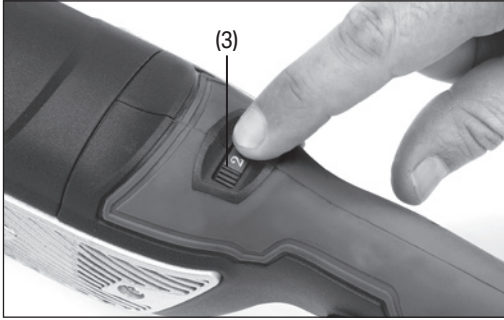

Fig.9
7.1 Variable Speed Control (Fig.9)